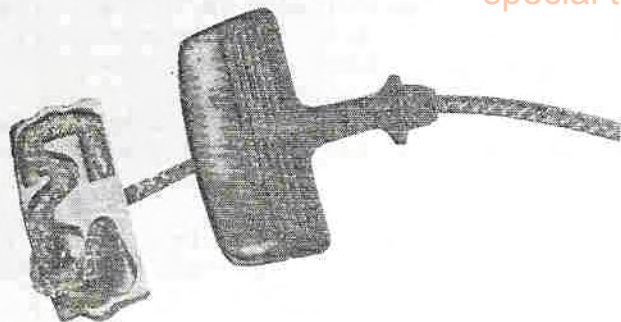

Fig. 9
2. Pull starter rope out far enough to tie a slip knot in rope. Pry rope anchor out of starter handle (Figure 9). Remove rope from anchor and remove starter handle from starter rope.
5. Turn the pulley two turns to tighten the spring before reinstalling the rope handle. Insert the rope through the housing and handle. Press the rope end into the channel in the rope anchor with the end butting firmly against the end of the channel (Figure 9).